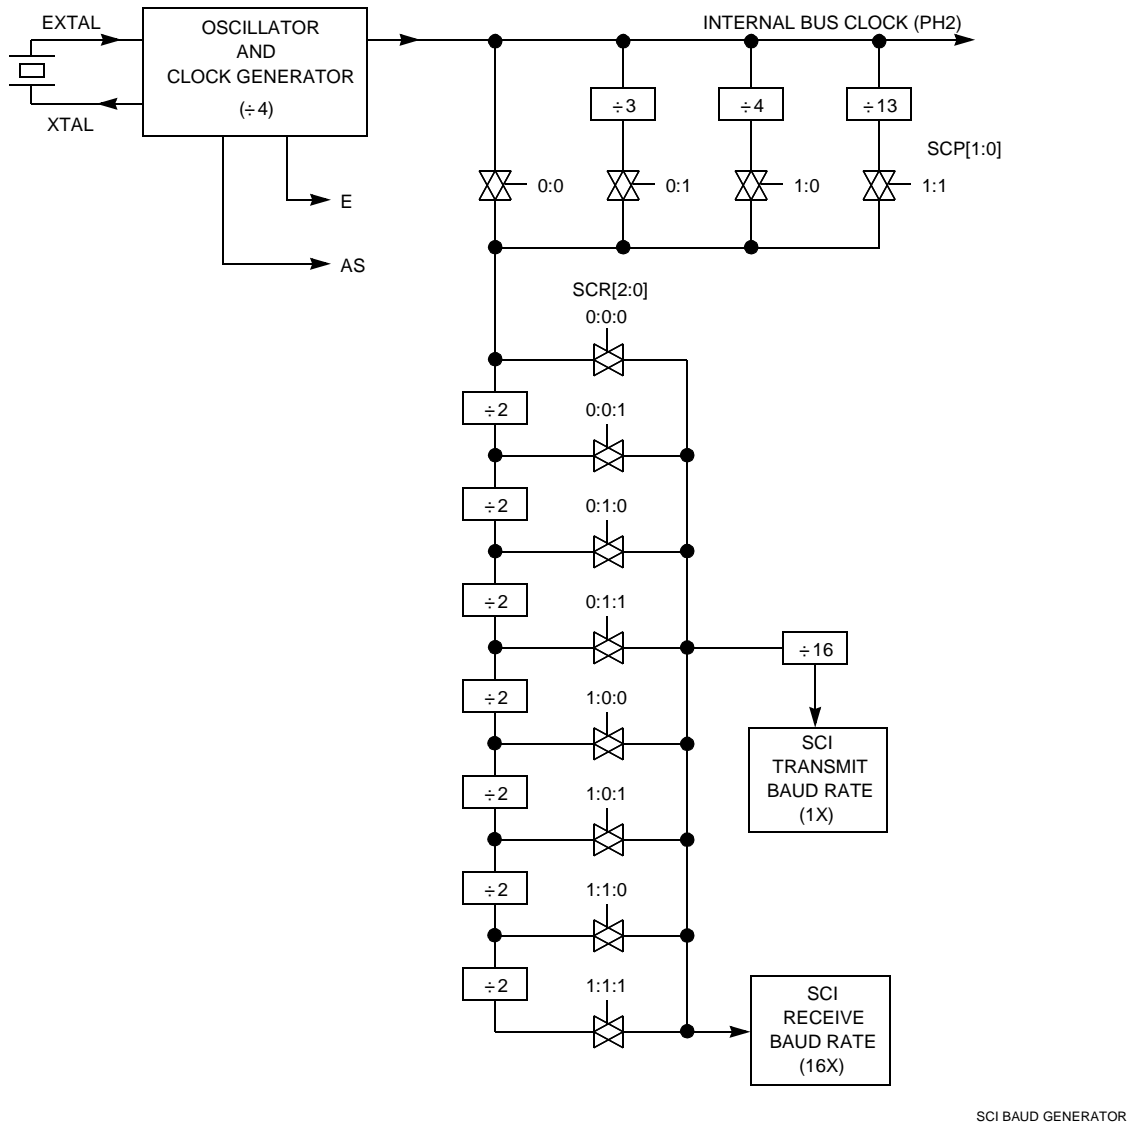

Figure 7-3 SCI Baud Rate Diagram
Figure 7-3 illustrates the SCI baud rate timing chain. The prescale select bits determine the highest baud rate. The rate select bits determine additional divide by two stages to arrive at the receiver timing (RT) clock rate. The baud rate clock is the result of dividing the RT clock by 16.